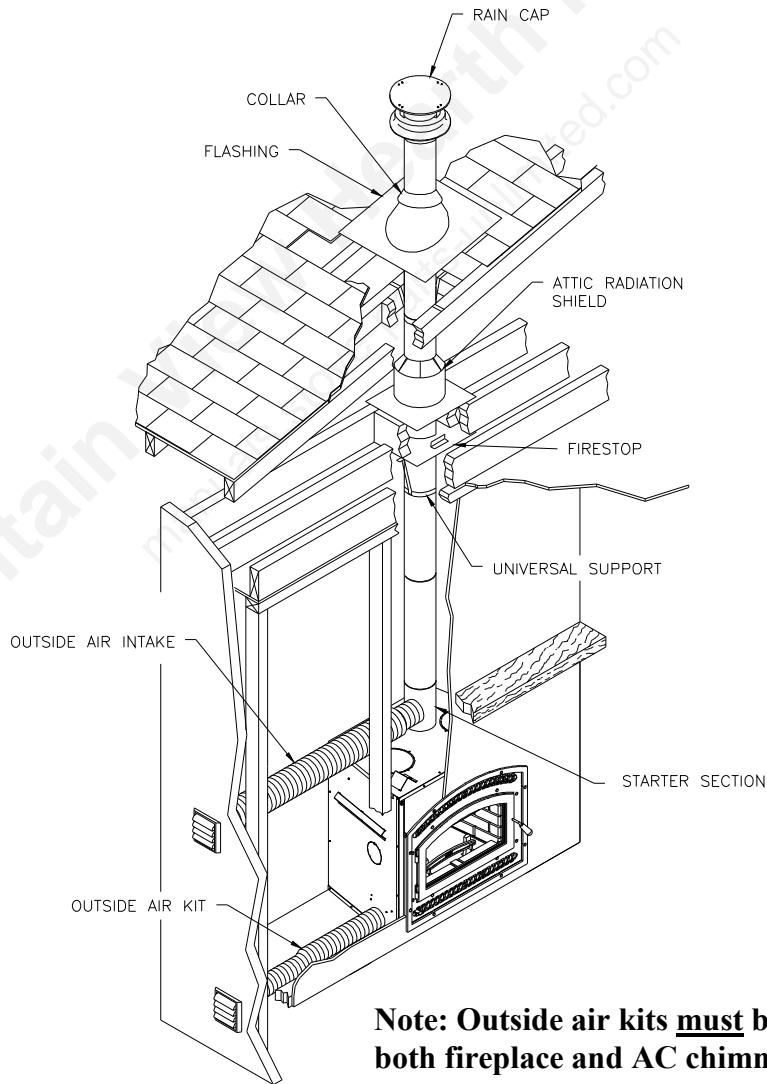

Figure 30
3. For ASHT+ / HT6103+ and S-2100+ / HT6000+ chimneys, place the first chimney length on the fireplace. To lock it in place, turn 1/4 of a turn clockwise. With the AC chimney, you must use a starter section before installing the first chimney length (figure 30). Continue installing chimney lengths making sure to lock each length in place.